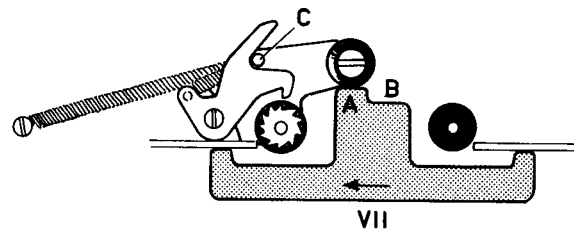

Fig. 6.27
- Fig 6.27 2. Hold special tool VII as shown in Fig 6.27.